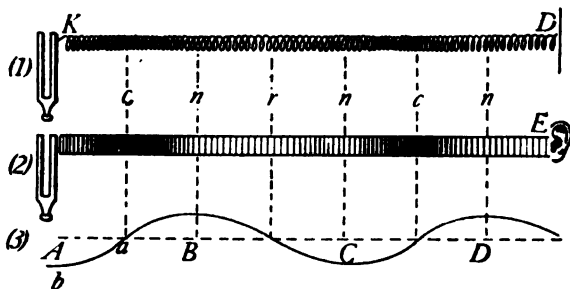

FIG. 318.—Longitudinal waves (1) in a spring, (2) in air, and (3) graphic representation showing wave length, condensations, and rarefactions.
waves may be studied by considering a wire spring as the medium through which the waves pass. (See Fig. 318.)
**324. The transmission of a sound by the air** may be understood by comparing it with the process by which a *wave is transmitted by a wire spring*. Consider a light spring (Fig. 318, 1) attached at the end of a vibrating tuning fork, *K*, and also to a diaphragm, *D*. Each vibration of the fork will first compress and then separate the coils of the spring. These impulses will be transmitted by the spring as described in Art. 315, and cause the diaphragm to vibrate *at the same rate* as the tuning fork. The diaphragm will then give out a sound similar to that of the tuning fork. Suppose that the spring is replaced by air, and the diaphragm, by the ear of a person, *E*, (Fig.
**325. Graphic Representation of Sound Waves.**—It is frequently desirable to represent sound waves graphically. The usual method is to use a curve like that in (Fig. 318, 3). This curve is considered as representing a train of waves moving in the same direction as those in Fig. 318 1 and 2, and also having the same length. The part of the wave  $A-B$  represents a condensation of the sound wave and the part  $B-C$  represents a rarefaction. A complete wave consisting of a condensation and a rarefaction is represented by that portion of the curve  $A-C$ . The portion of the curve  $B-D$  also represents a *full wave length* as the latter is defined as *the distance between two corresponding parts of the adjacent waves*. The curve, Fig. (318, 3) represents not only the wave length, but also the height of the wave or the amount of movement of the particles along the wave. This is called the *amplitude* and is indicated by the distance  $A-b$ . Since the *loudness* or intensity of a sound is found to depend upon the amount of movement of the particles along the wave, the *amplitude* of the curve is used to indicate the loudness of the sound represented. All of the characteristics of a sound wave may be graphically represented by curves. Such curves will be used frequently as an aid in explaining the phenomena of wave motion both in sound and in light.